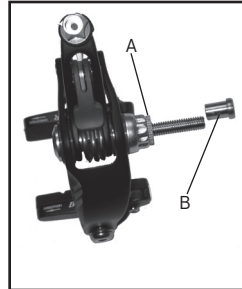

Figure 4 Brake attachment parts
- Attachment nuts, 2 (Figure 4)